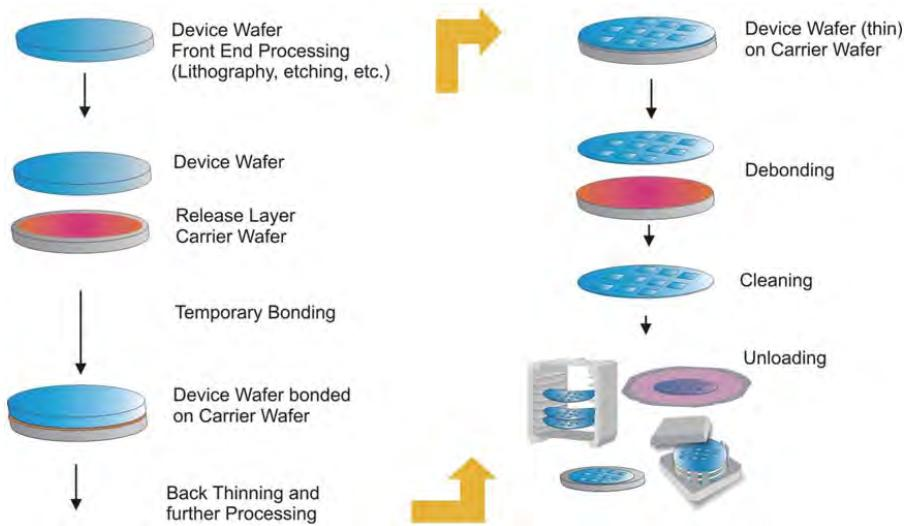

Figure 1. Thin wafer processing based on temporary bonding and debonding
**Figure 1** illustrates the general process flow for thin wafer processing with temporary bonding and debonding. First, the fully-front-side-processed device wafer is temporarily bonded face down to a carrier wafer. Next, the device wafer is thinned to the desired thickness. The